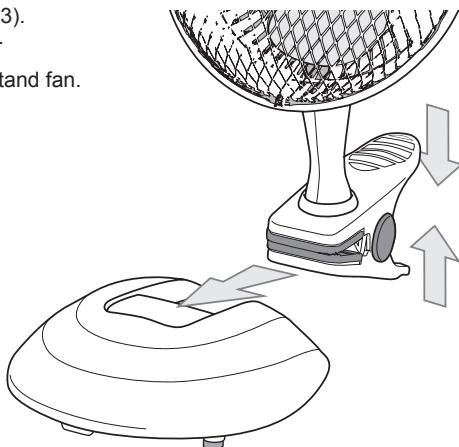

Figure 3
1. Press the ends of the clip together (see figure 3).
-  Put the clip into the base (7) and you have a stand fan.